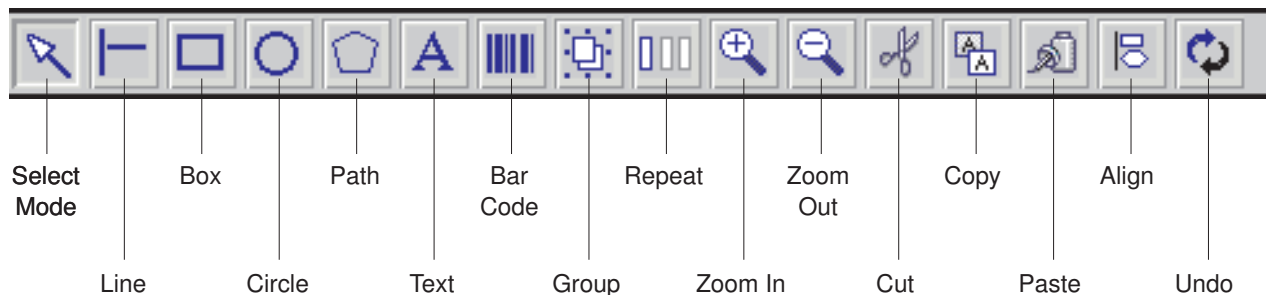

Figure 2. Action toolbar in overlay mode
The contents of the toolbar on the View/Edit window change, depending on the mode in which you are working. Figure 2 shows the action toolbar when you are in overlay design mode.
- Use the icons on the **Action** toolbar on the **View/Edit** window. The toolbar is shown in Figure 2 on page 15.